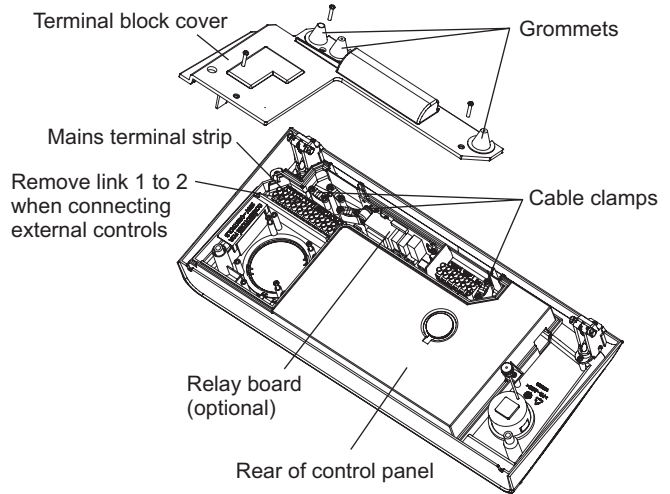

Fig. 23
4.10 CONNECT THE MAINS SUPPLY - Fig. 23
2. **Note:** This boiler has been fitted with a mains supply cable. However, if it is necessary to fit an alternative supply cable, ensure the cable clamp that has been fitted is removed and connect as follows:- Remove the three screws securing the terminal block cover from the back of the control box (see Fig. 23). Pass the mains supply cable through the cable clamp and connect as follows:- Brown to L, Blue to N and Green/Yellow to \perp . Ensure correct polarity.